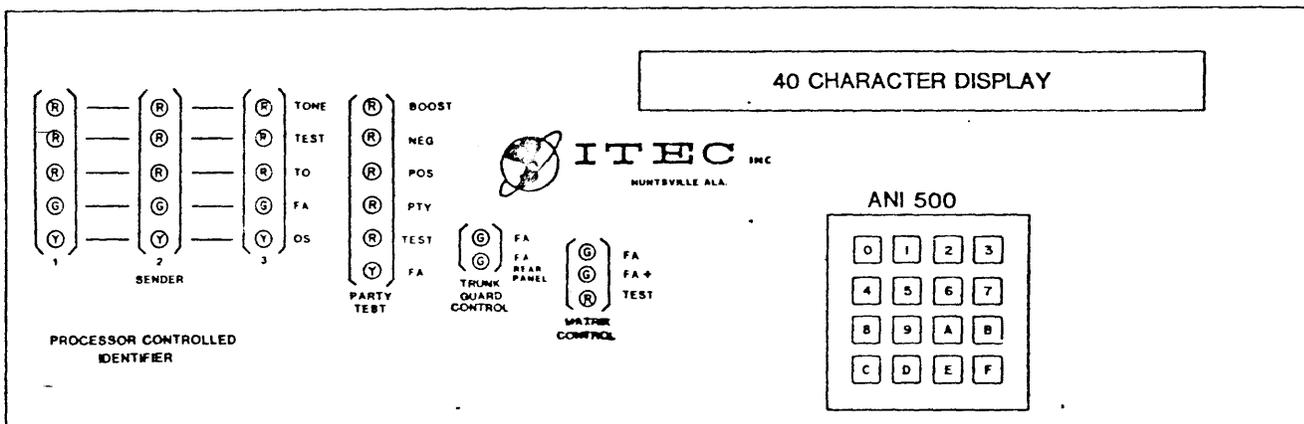
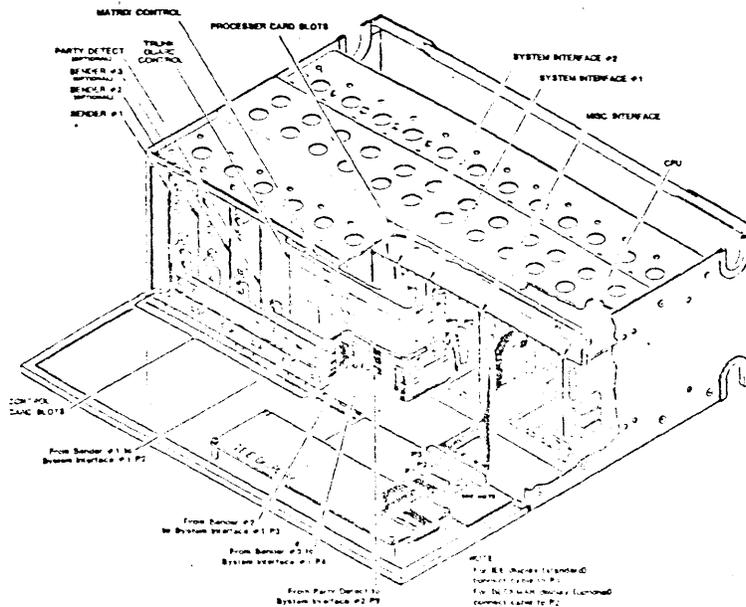

Figure 1. Front Panel
Figure 2. Internal Layout
**1.04 Test Equipment.** Most of the tests in this section can be performed from the Identifier front panel. For reference, the front panel is shown in Figure 1 and the internal card layout is shown in Figure 2. The functions of the controls and indicators in the Identifier are listed in TABLE 2. In addition to the front panel, the external test equipment listed in TABLE 3 is useful for system installation and check-out.